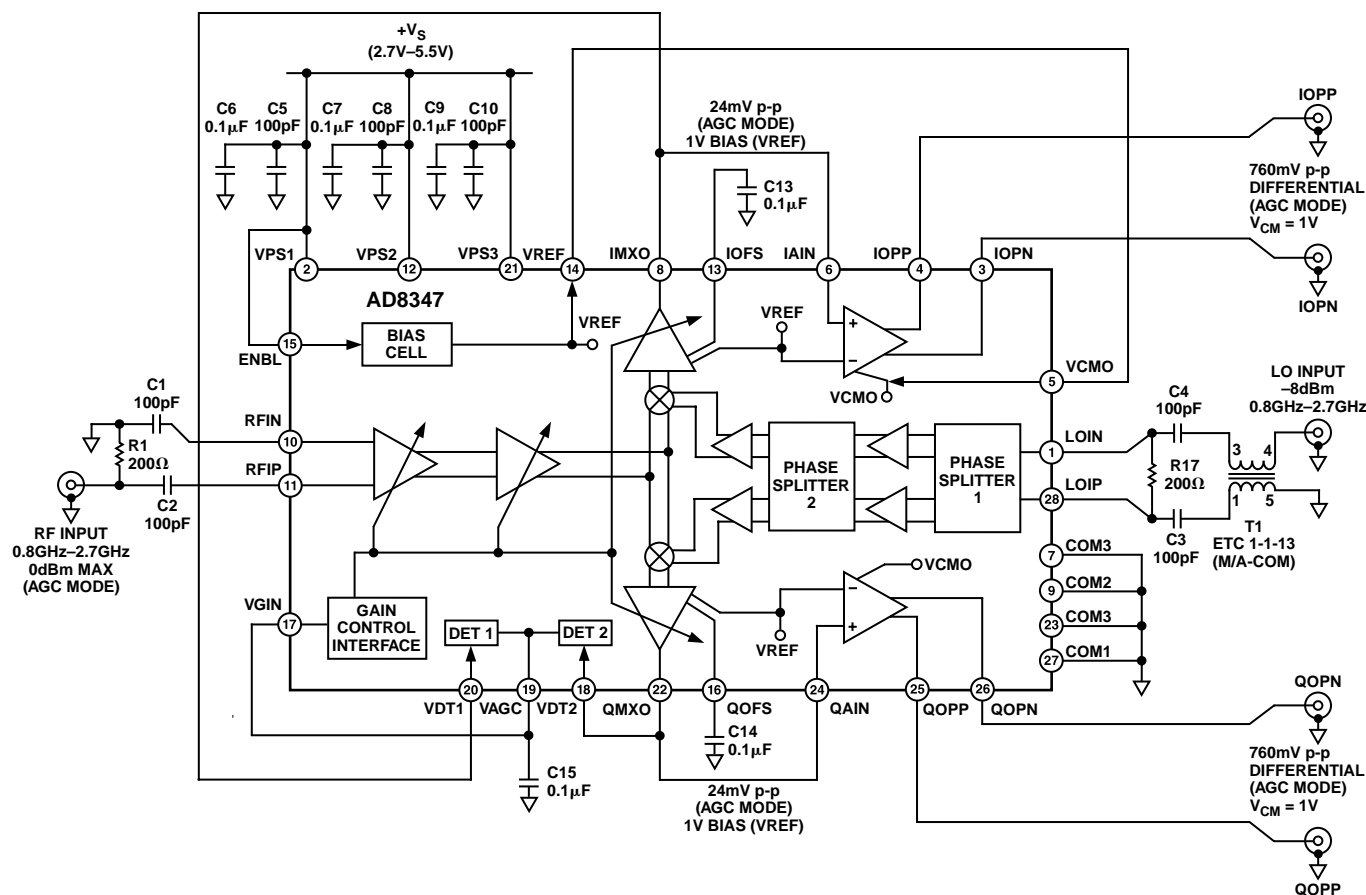

Figure 4. Basic Connections
Figure 4 shows the basic connections for operating the AD8347. The device is powered through three power supply pins: VPS1, VPS2, and VPS3. These pins supply current to different parts of the overall circuit. VPS1 and VPS2 power the Local Oscillator (LO) and RF sections, respectively, while VPS3 powers the baseband amplifiers. While all of these pins should be connected to the same supply voltage, each pin should be separately decoupled using two capacitors. 100 pF and 0.1  $\mu\text{F}$  are recommended (values close to these may also be used).
While the VGA can be driven by an external source such as a DAC, the AD8347 has an on-board sum of squares detector which allows the AD8347 to operate in an automatic leveling mode. The connections for operating in this mode are shown in Figure 4. The two mixer outputs are connected to the detector inputs VDT1 and VDT2. The summed detector output drives an internal integrator which in turn delivers a gain correction voltage to the VAGC pin. A  $0.1 \mu\text{F}$  capacitor from VAGC to ground sets the dominant pole of the integrator circuit. VAGC, which should be connected to VGIN, adjusts gain until an internal threshold is reached. This threshold corresponds to a level at the IMXO/QMXO pins of approximately 8.5 mV rms. This level will change slightly as a function of RF input power (see TPC 30). For a CW (sine wave) input this corresponds to
The single-ended input signal to the baseband amplifiers is applied at the high impedance inputs IAIN and QAIN. As can be seen in Figure 4, the baseband amplifier operates internally as a differential amplifier, with the second input being driven by  $V_{VREF}$ . As a result, the input signal to the baseband amplifier should be biased at  $V_{VREF}$ .